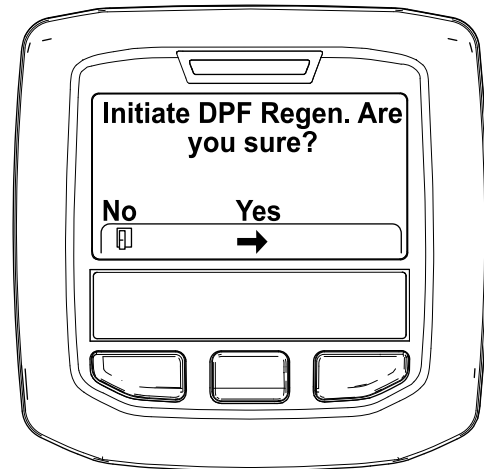

Figure 51
4. When the "Initiate DPF Regen. Are you sure?" message displays, press the center button (Figure 51).